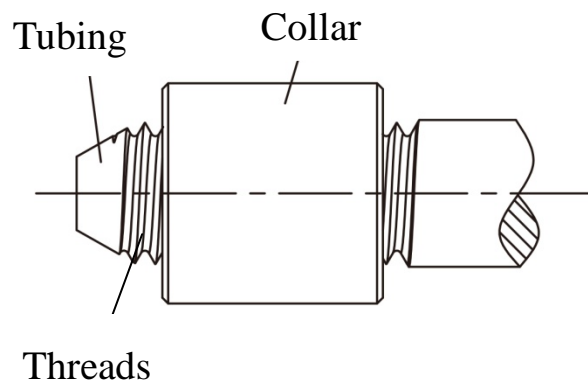

Figure 2
- 2) Remain two-three circles of threads when screw the collar into the tubing as indicated in the Figure 2.